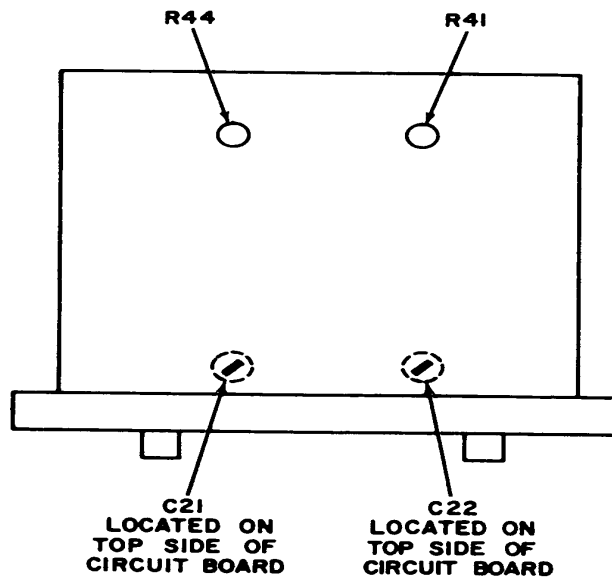

Figure 4. Model 466A-bottom view.
(1) Adjust R41 (fig. 4) for an 80- mV indication on ac/dc voltmeter (R).
(2) Adjust R44 (fig. 4) for an 800-mV indication on ac/dc voltmeter (R).
- (1) Adjust oscillator frequency for 1 MHz and for a 0-dB reference on 10 mV range. Adjust C21 (fig. 4) until voltmeter indicates level recorded by **a(3)** above (R)
- (2) Adjust oscillator frequency for 1 MHz and for a 0-dB reference on 10 mV range. Adjust C22 (fig. 4) until voltmeter indicates level recorded in **a(3)** above (R)